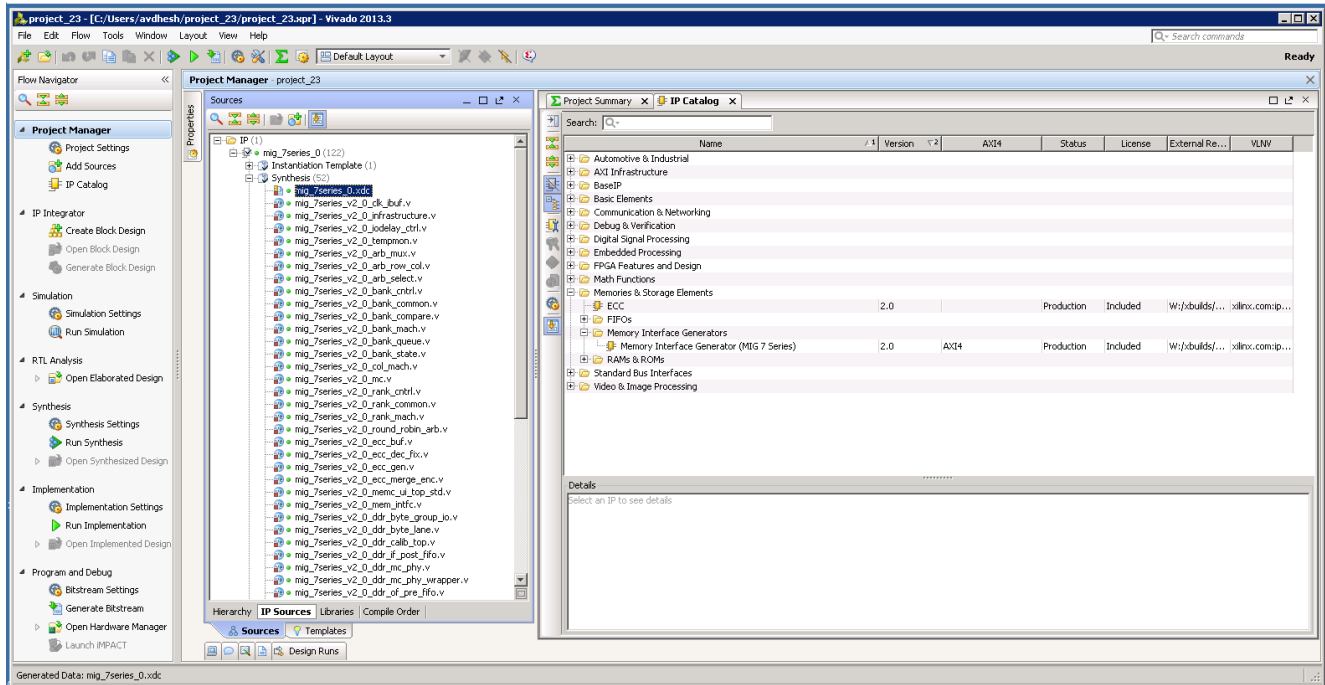

Figure 2-32: Generate RTL and Constraints
- All MIG generated user design RTL and XDC files are automatically added to the project. If files are modified and you wish to regenerate them, right-click the XCI file and select **Generate Output Products** (Figure 2-32).